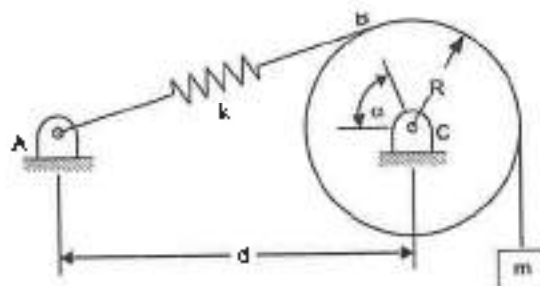

Figure 2
- In figure 2, the spring is unstretched when $\alpha = 0$ and k is the spring constant. Write a MATLAB program to compute and plot the mass m corresponding to equilibrium as a function of α for values of α from 0° to 90° . Find the value of α corresponding to equilibrium $m=2.5\text{kg}$. Given $R = 210 \text{ mm}$, $d = 50 \text{ mm}$ and $k = 1.2 \text{ kN/m}$.